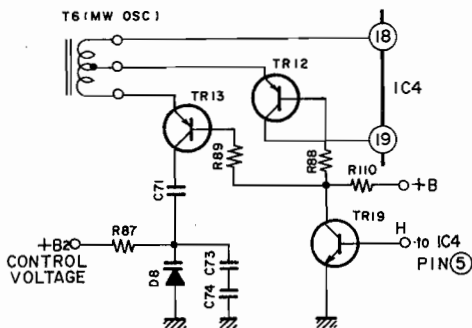

Fig. 6-7 MW OSC
- 1) For MW, the pin ⑤ of IC4 is at "H" level, and so TR19 is ON, TR16 OFF, TR12 and TR13 ON, TR20 is OFF and so TR14 and T15 are OFF. This means that T6, C71, C73, C74 and D8 are connected through TR19, TR12 and TR13, to create the MW OSC state (refer to Fig. 6-7).